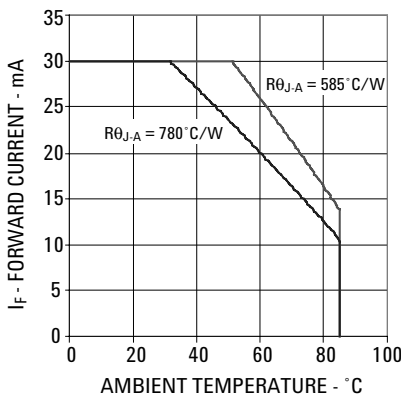

Figure 2. Forward Current vs. Ambient Temperature.
1. Derate linearly as shown in figure 2.